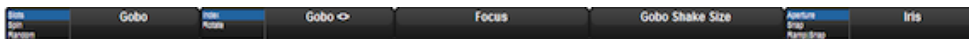

Figure 6.2. Wheels Toolbar for the Beam Parameters of a Studio Spot 575
1. Press the appropriate parameter type key : Colour or Beam or any user kind key that contains colour and beam functions. The Wheels Toolbar shows the available parameters and their current value; see *Figure 6.2, “Wheels Toolbar for the Beam Parameters of a Studio Spot 575”*.